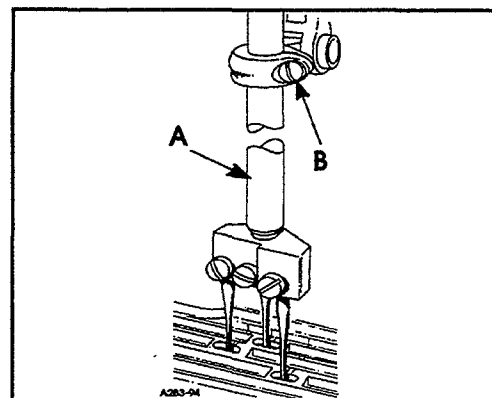

FIG. 4
Insert a new set of needles, type and size specified, with screw (B, Fig. 4) slightly loosened, lower needle bar (A) and turn needle head as required until the needles are centered in the throat plate needle hole slots. Tighten screw (B).